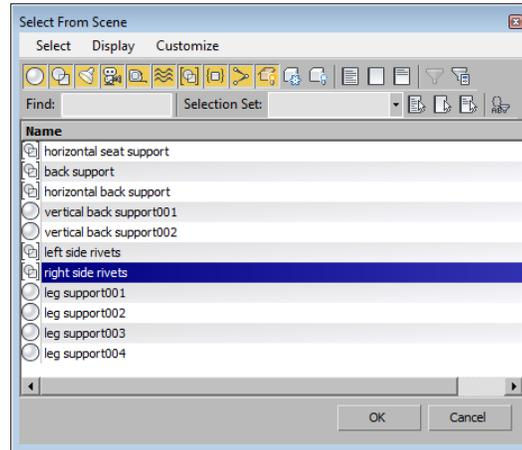

Figure 2-80 The *right side rivets* group selected in the *Select From Scene* dialog box
4. In the **Select From Scene** dialog box, select *right side rivets* and choose the **OK** button, refer to Figure 2-80.